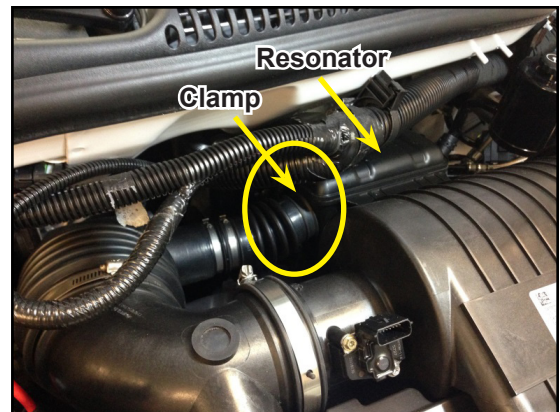

Figure 39. Remove Clamp from Air Intake Unit
1. Remove the clamp attaching the resonator (silencer) to the air intake unit (Figure 39).